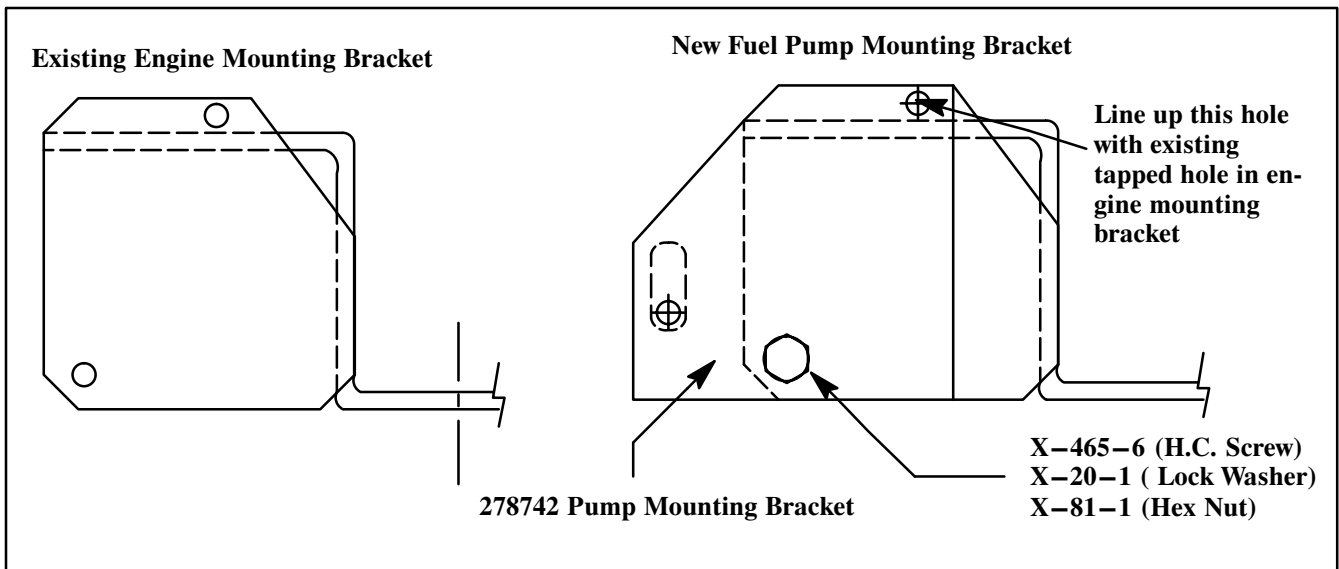

Figure 1.
3. Remove hardware securing round fuel pump to generator frame. Remove fuel pump and discard. (Save mounting hardware). Mount new fuel pump mounting bracket 278742 to existing engine mounting bracket using existing mounting hardware and new hardware supplied in kit. (See Figure 1).